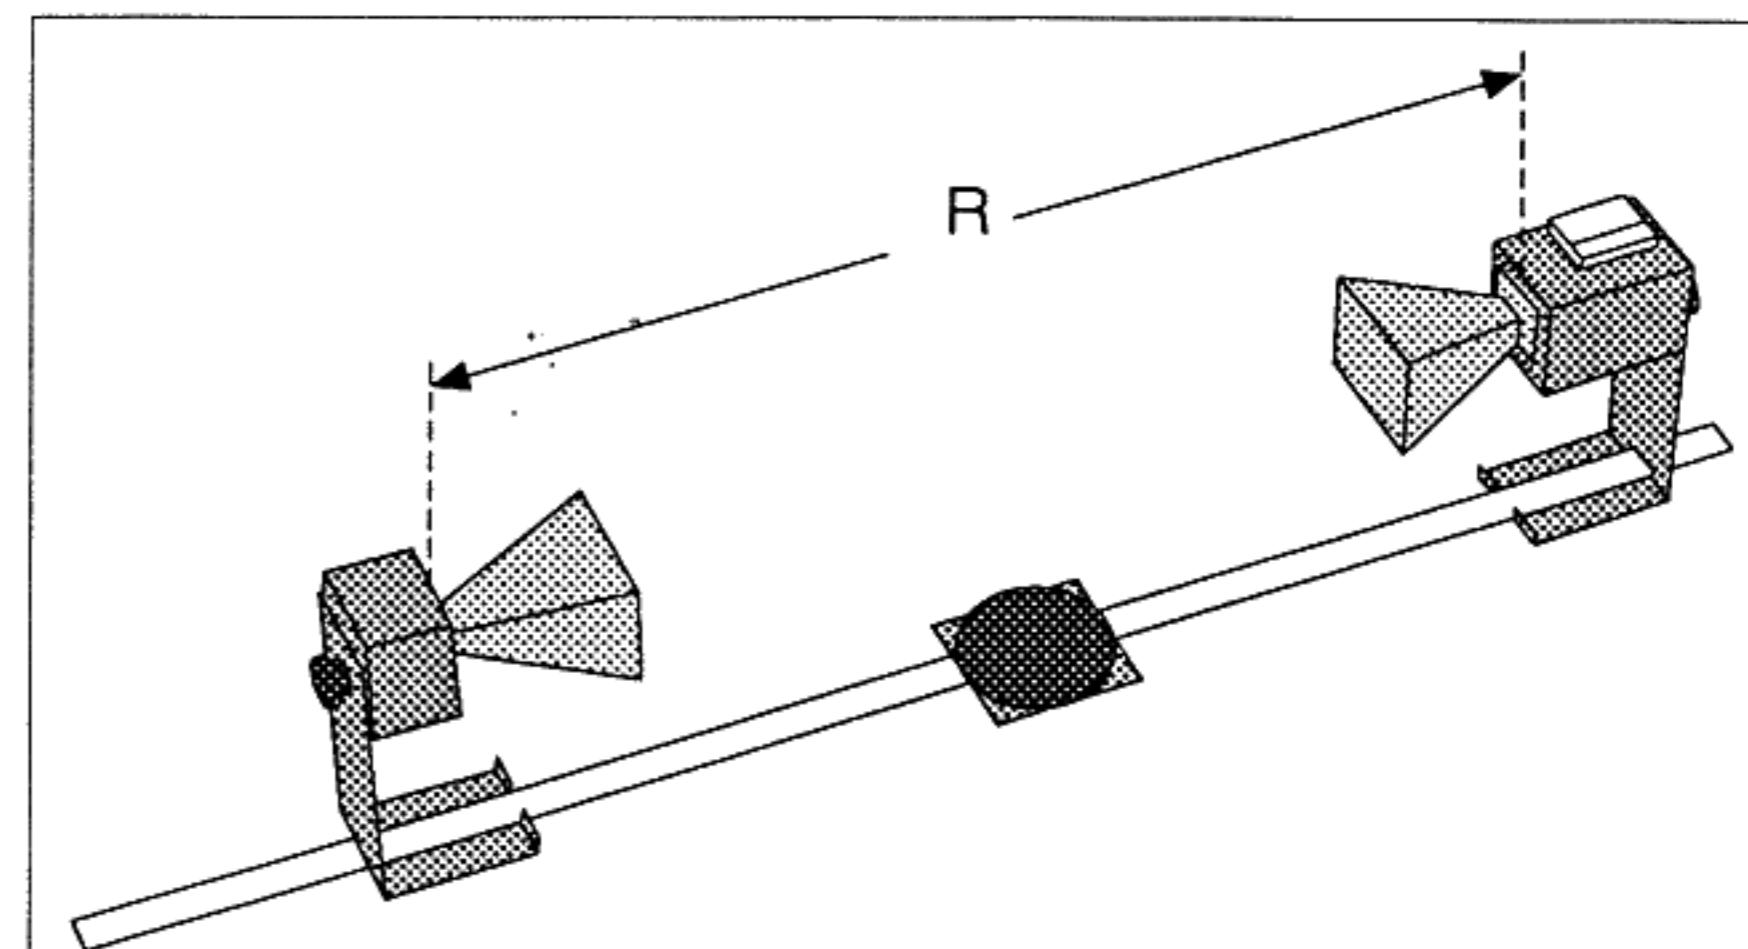
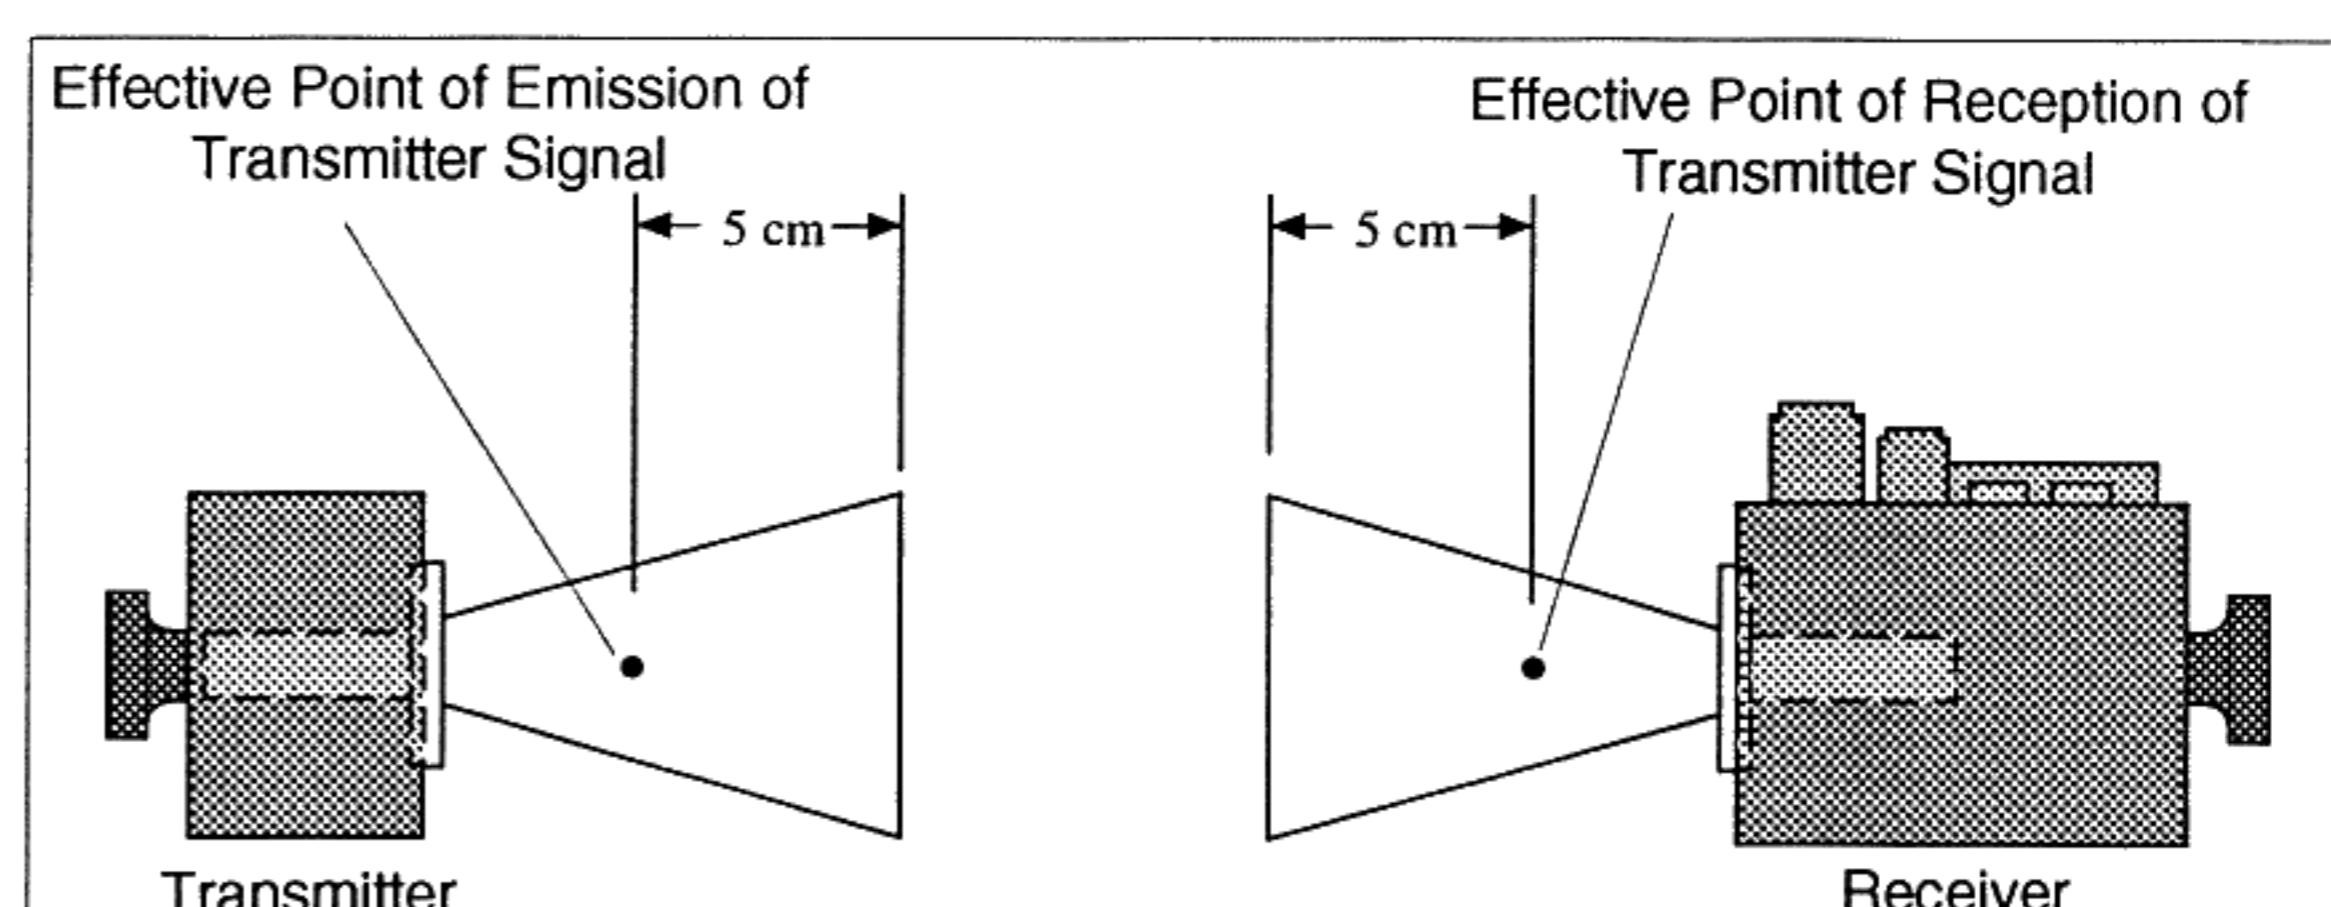

Figure 1.1 Equipment Setup
Figure 1.2 Equipment Setup
- ① Arrange the Transmitter and Receiver on the Goniometer as shown in Figure 1.1 with the Transmitter attached to the fixed arm. Be sure to adjust both Transmitter and Receiver to the same polarity—the horns should have the same orientation, as shown.
- ② Plug in the Transmitter and turn the INTENSITY selection switch on the Receiver from OFF to 10X. (The LEDs should light up on both units.)
- ③ Adjust the Transmitter and Receiver so the distance between the source diode in the Transmitter and the detector diode in the Receiver (the distance labeled **R** in Figure 1.1) is 40 cm (see Figure 1.2 for location of points of transmission and reception). The diodes are at the locations marked "T" and "R" on the bases. Adjust the INTENSITY and VARIABLE SENSITIVITY dials on the Receiver so that the meter reads 1.0 (full scale).
- ④ Set the distance **R** to each of the values shown in Table 1.1. For each value of **R**, record the meter reading. (Do not adjust the Receiver controls between measurements.) After making the measurements, perform the calculations shown in the table.
- ⑤ Set **R** to some value between 70 and 90 cm. While watching the meter, slowly decrease the distance between the Transmitter and Receiver. Does the meter deflection increase steadily as the distance decreases?